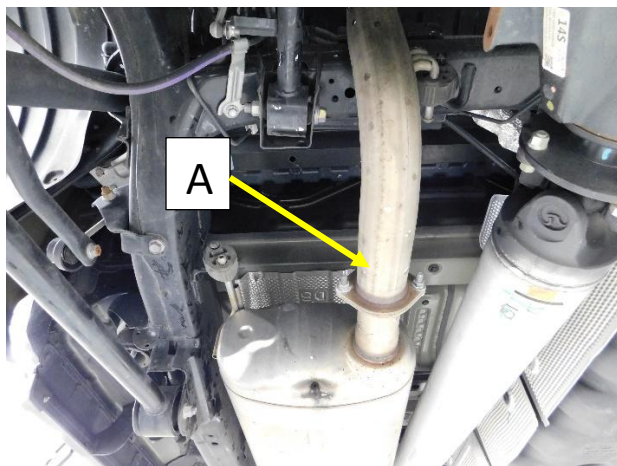

Figure 1
2. Remove the M8 bolts at the flange that connects the tailpipe to the muffler (A). **Fig.1**